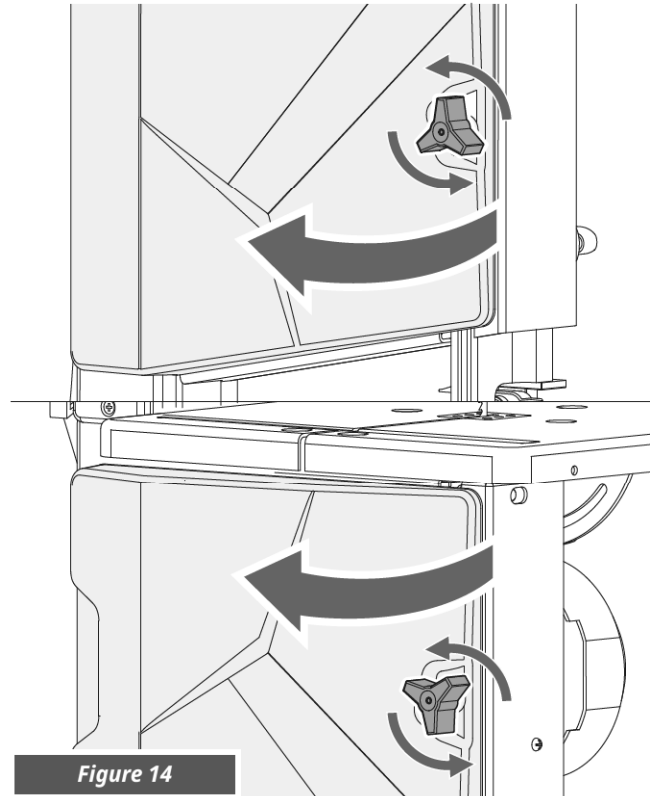

Figure 14
2. Open both housing doors. (See Figure 14)